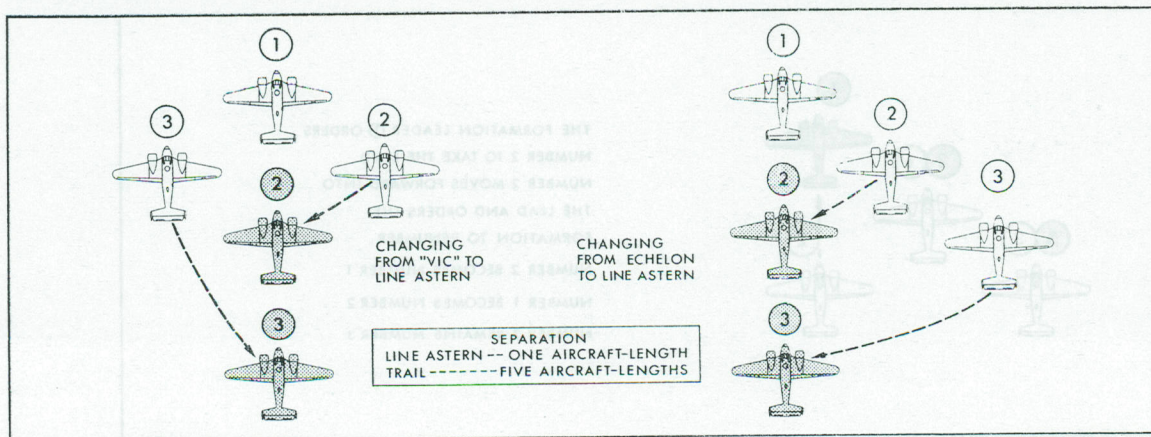

Figure 4. Forming Line Astern
(2) LINE ASTERN - A line astern formation can be formed from either echelon or "VIC" (Figure 4); however, changing to line astern from "VIC" is normally avoided since this manoeuvre demands that Number 3 divide his attention between the leader and Number 2 until he is in a suitable position behind Number 2. When flying in echelon and the leader calls for line astern, the pilots of the two following aircraft reduce power and